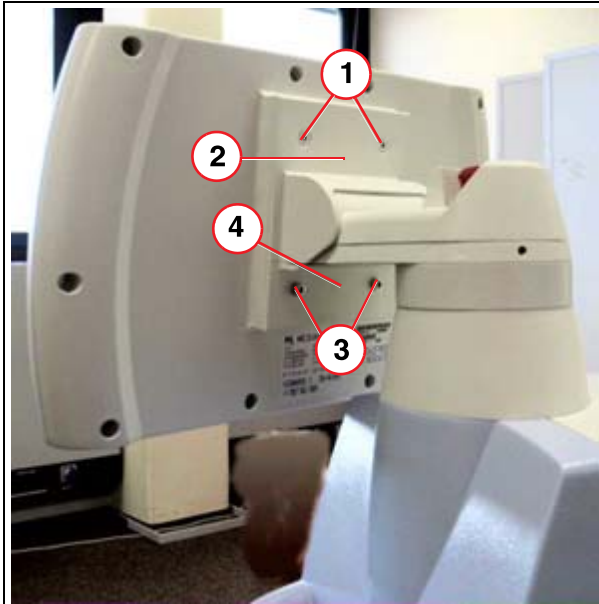

Fig. 8: control\_console
2. Unscrew the 2 ISK screws (1/Fig. 8 / p. 31).
3. Remove the cover (2/Fig. 8 / p. 31).
4. Unscrew the 2 ISK screws (3/Fig. 8 / p. 31).
5. Remove the cover (4/Fig. 8 / p. 31).